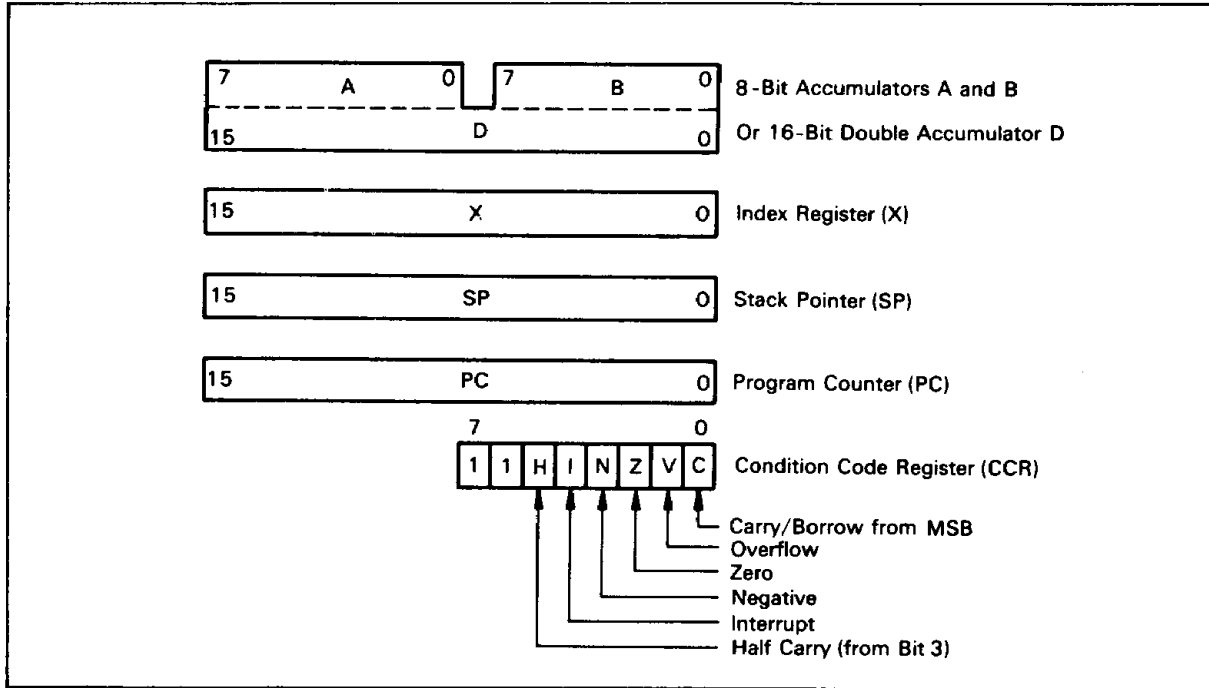

Figure 2. CPU Registers
**Registers** : Figure 2 is the HD63701Y0 register programming model. The double accumulator D consists of accumulators A and B, so using accumulator D destroys the contents of A and B.